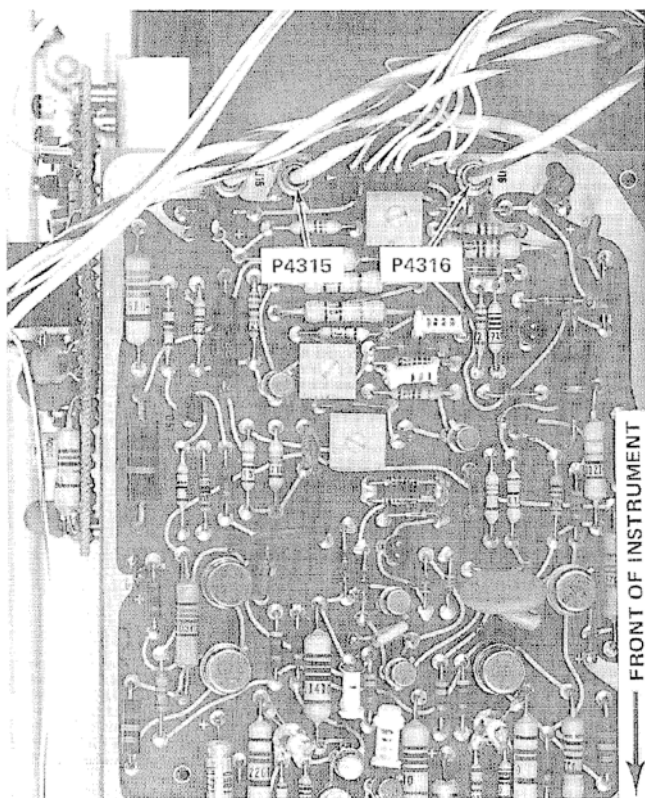

Fig. 3-5. Location of P4315 and P4316 on A43, Horizontal Output board.
a. Disconnect coaxial connectors P4315 and P4316 from the Horizontal Output board (see Fig. 3-5).